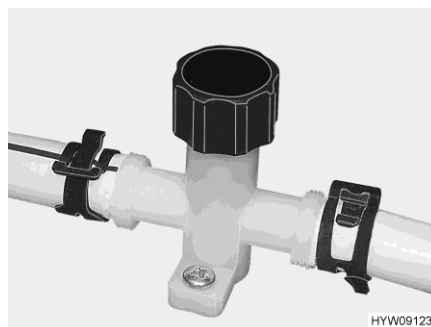
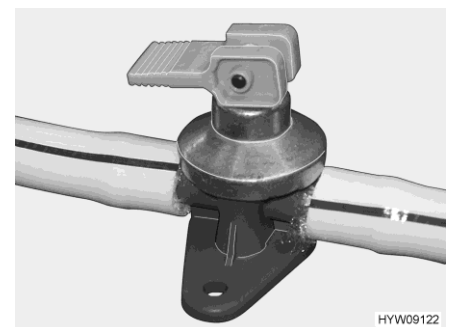

Fig. 155 Drain cock (water pipe)
Fig. 156 Drain cock (Alde boiler)
- Close drain cocks (Fig. 155 and Fig. 156). To do so, close the caps by turning them in a clockwise direction and set the rocking lever in a horizontal position. The position of the safety/drainage valve and the drain cocks is specified in the section 10.6 at the end of this chapter.